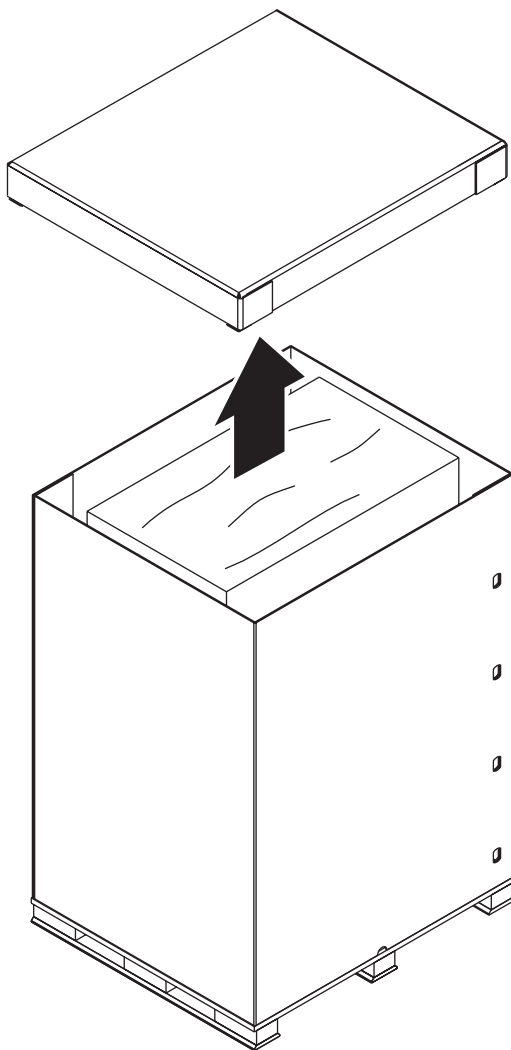

Figure 6: Removing the box top cover
4. Lift the cardboard box top cover straight up and remove it from the box (see Figure 6).